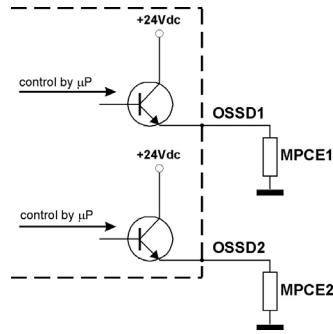
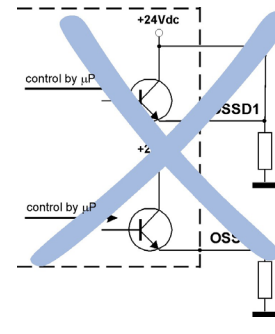

Fig. 14
Fig. 15
- The safety contacts OSSD1 and OSSD2 have to be connected as Fig.14 cannot be connect in series or in parallel. If one of these configurations is wrongly used (Fig.15, 16, 17), the device enters protection block condition (see cap.7 "Diagnostic functions").